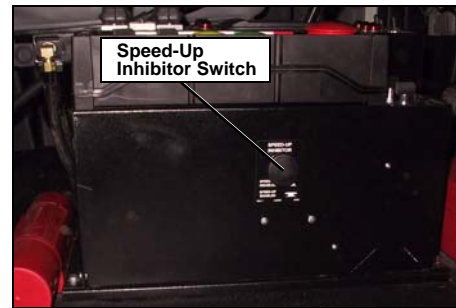

Figure 44. Main console from right-hand side driving position
3. Disable the speed-up system on the console (Figure 44. “Main console from right-hand side driving position”) by pulling out the **SPEED-UP INHIBITOR** switch.